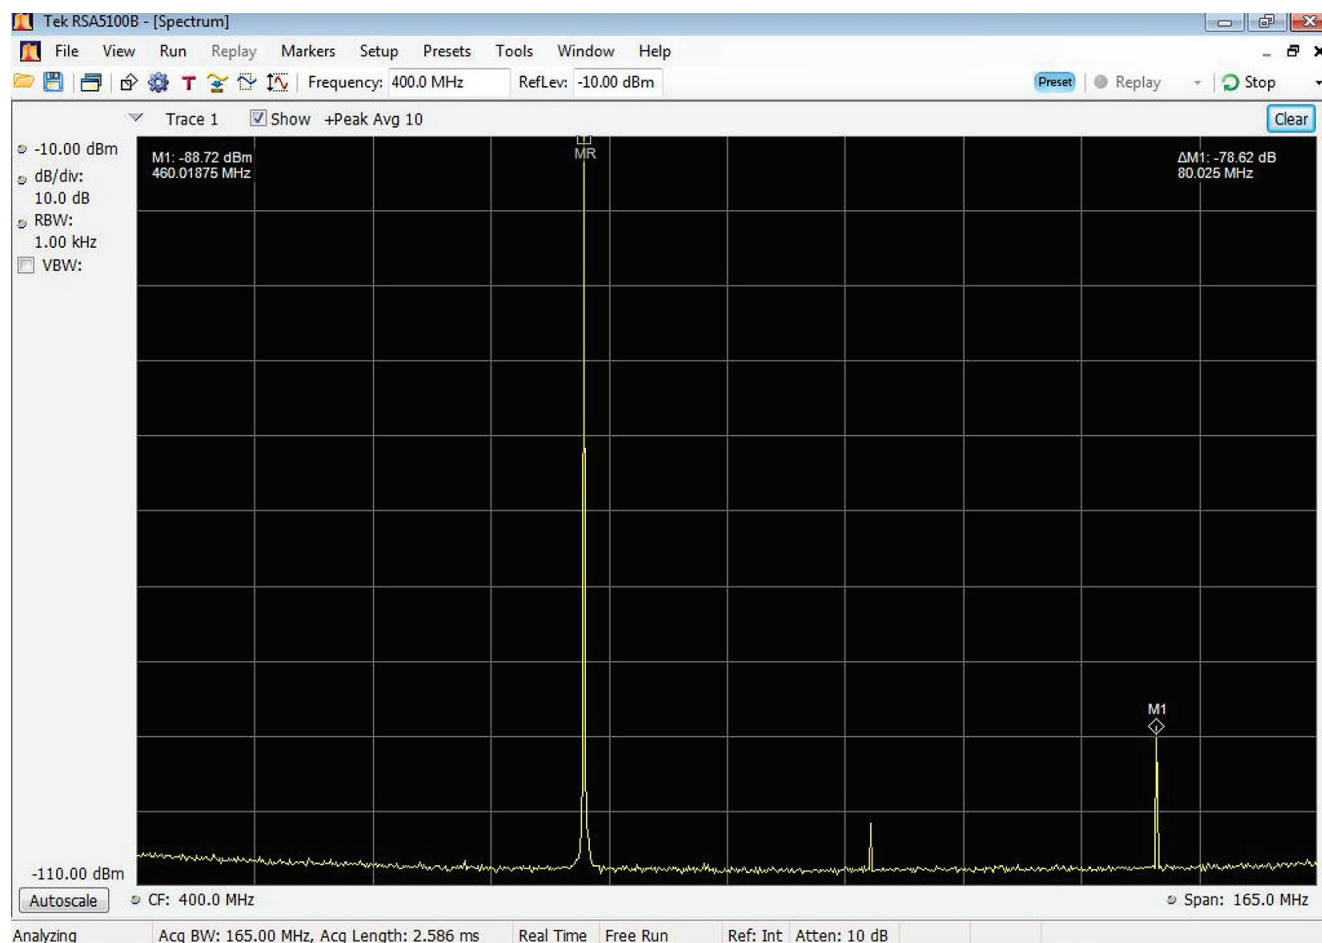

**Figure 2.** Performance of Option B16x showing IF/ADC-generated harmonic distortion at -75.72 dBc. The signal at M1 is the combination of HD2 and HD3 combine.
Figure 2 shows a signal at the reference level of -10dBm and the spectrum that you would typically see for a center frequency (CF) of 400 MHz with a 380 MHz tone applied to the input. The span is 165 MHz. There are usually two or three signals created by the instrument that limit SFDR. The main component shown above by marker M1 at -75.72 dBc is the point where the HD2 and HD3 of the input signal in the
Figure 3 is the same conditions as in Figure 2, except with 10 rms averages of the traces. The result is a less noisy measurement of about -79 dBc at M1.